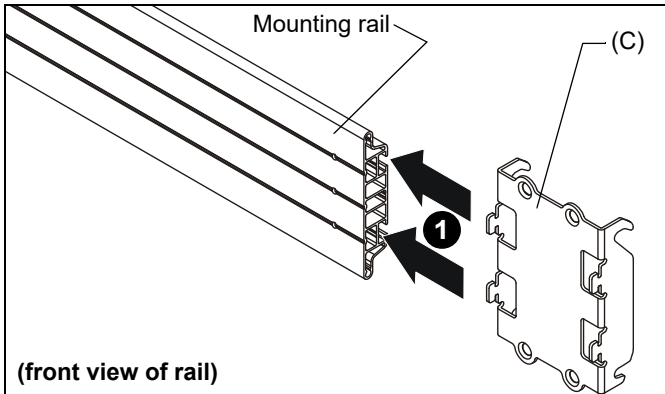

Figure 15
- Slide height adjust plates (C) into open end of mounting rail. (See Figure 15)